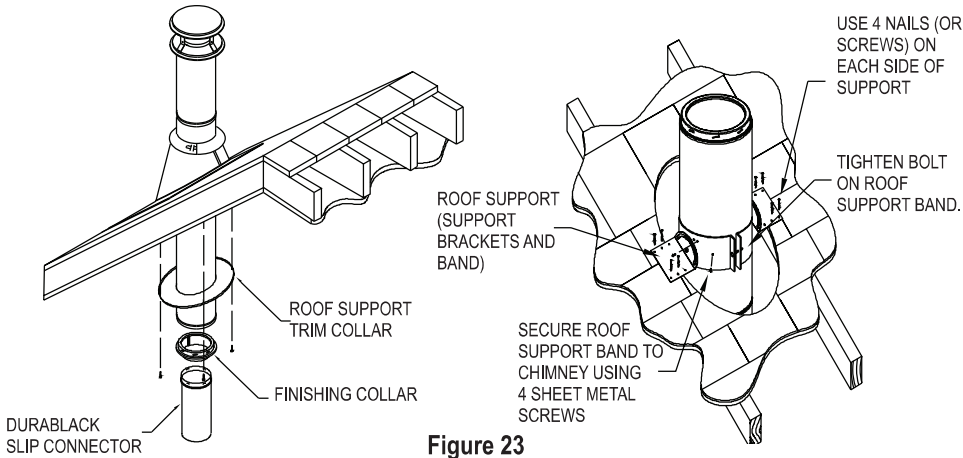

Figure 23
(B) **Roof Support:** A Roof Support may be used in installations where there is a cathedral ceiling, and a Square Ceiling Support is not desired. The Roof Support allows the DuraTech chimney to come down into the room below the level of the ceiling (**Fig.23**). The Roof Support can support a maximum of 30' of DuraTech Chimney total, with maximum of 10' above the support (**Table 2**). If a taller stack of DuraTech Chimney is required, you must use a Square Ceiling Support Box instead.
Support Brackets to roof using (4) 8 penny nails or (4) #8, 1-1/2" screws per side (**Fig.23**).
B5. **Transition to Connector Pipe:** Attach the Finishing Collar by twist locking it to the bottom section of DuraTech Chimney. Then, slide Trim Collar over the DuraTech Chimney and attach the Trim Collar to the ceiling using (4) 1-1/4" screws provided (**Fig.23**).